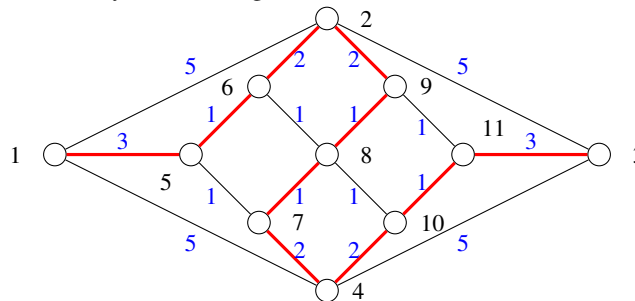

Figure 2: Hamiltonian path with costs for part (iii).
- (iii) Consider now that each path has a different cost (see Figure 2). Encode the problem of finding the minimum-cost Hamiltonian path in PDDL. The costs in Figure 2 are just an example, it is also fine if you use different values for your encoding.